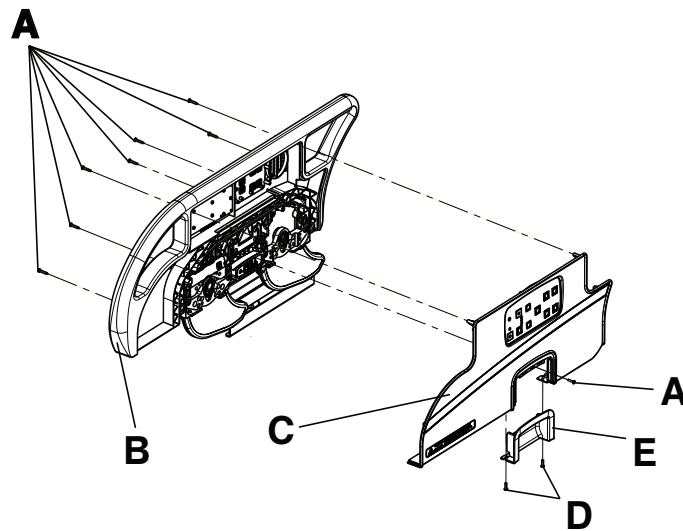

Figure 65 – Removing the siderail covers
3. Using a #2 Phillips screwdriver, remove the eight screws (A) that secure the covers (B and C) to the siderail (Figure 65).
4. Remove the screws (D) that secure the release handle panel (E) (Figure 65). Remove the panel.